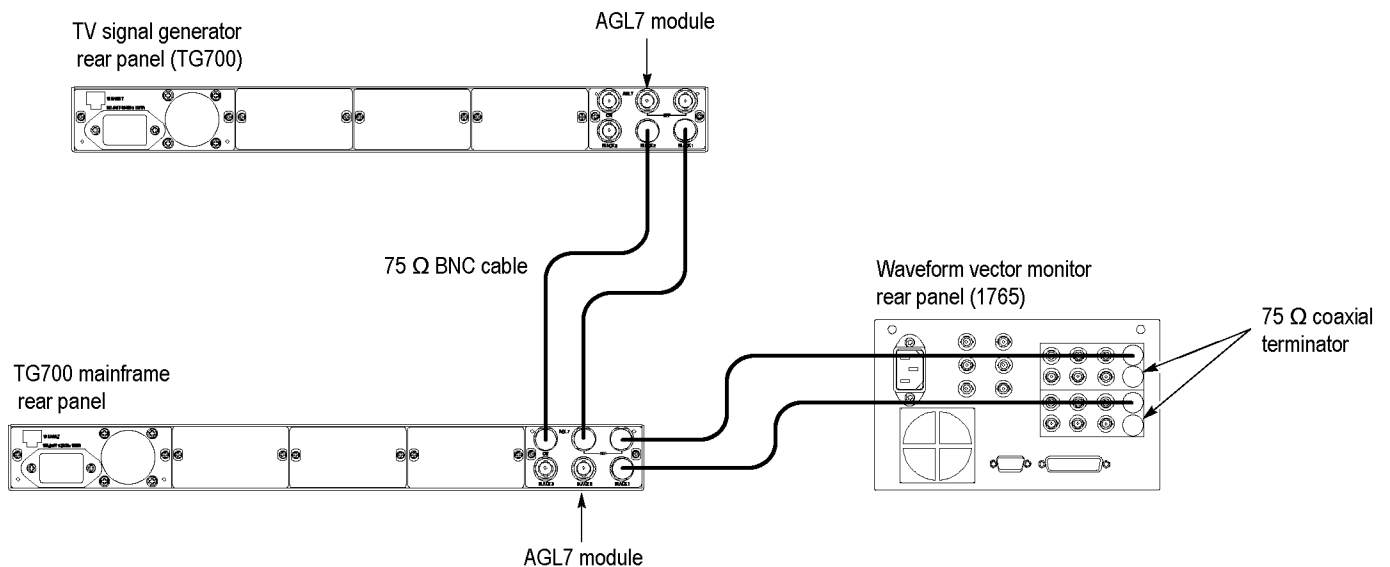

Figure 6: Equipment connections for verifying the genlock function
3. Use a 75 Ω BNC cable to connect the other REF connector on the AGL7 Genlock module to the A connector on the waveform vector monitor as shown in the following figure. (See Figure 6.)
4. Use a 75 Ω BNC cable to connect the BLACK 1 connector on the AGL7 Genlock module to the B connector on the waveform vector monitor rear panel as shown in the following figure. (See Figure 6.)